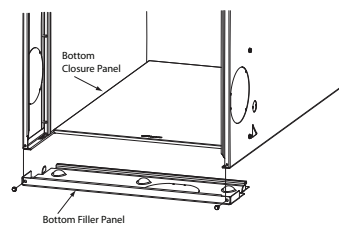

Fig. 9 – Removing Bottom Closure Panel
1. Tilt or raise furnace and remove 2 screws holding bottom filler panel, see Fig. 9.
1. Tilt or raise furnace and remove 2 screws holding bottom filler panel, Fig. 9.
1. Tilt or raise furnace and remove two screws holding bottom filler panel, see Fig. 9.